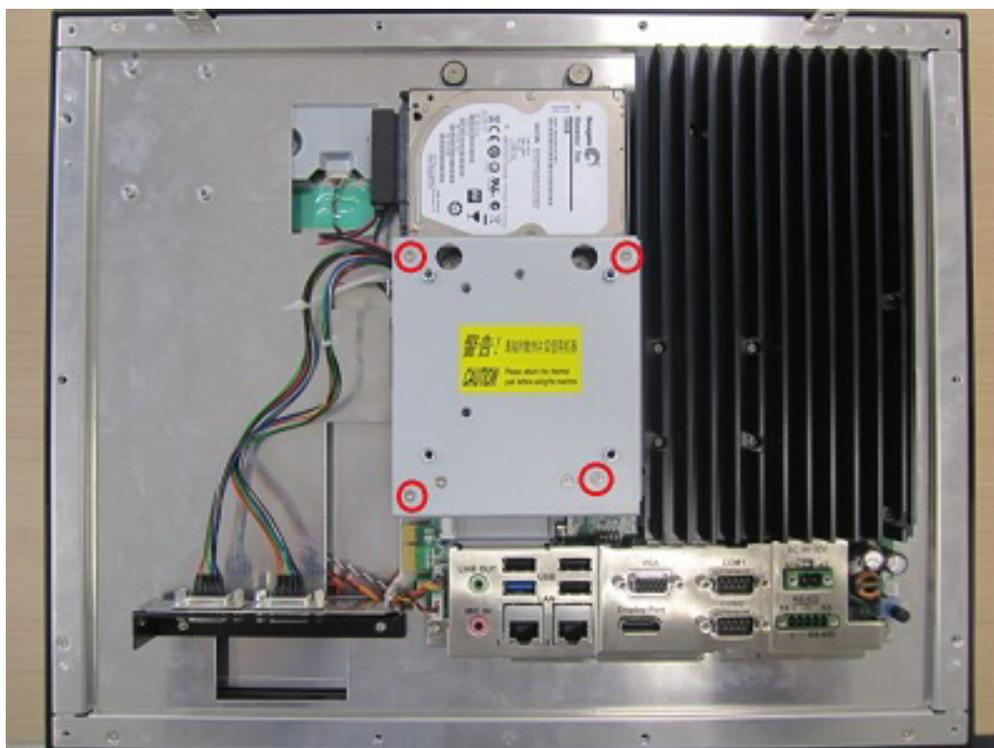

Figure 2.56
5. Fix VESA cover as shown in Figure 2.56. Then replace the rear cover and fix it to finish the installation.